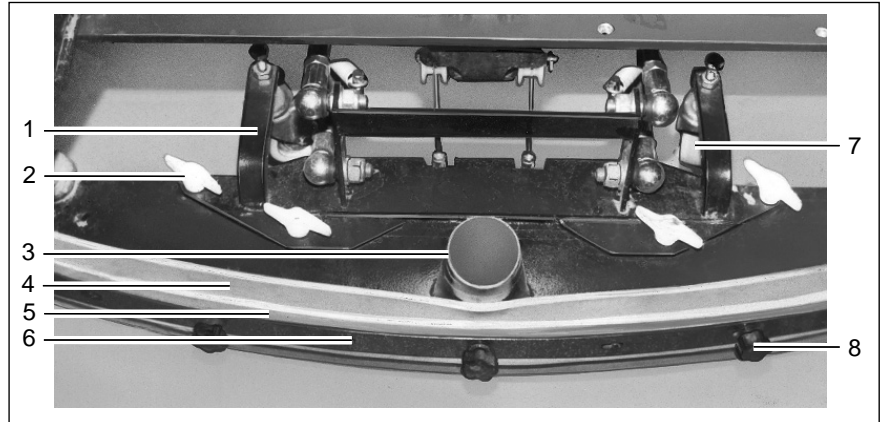

Fig. 36
5. Pull the suction hose from the connection nozzle (Fig. 36/3) of the squeegee.
6. Loosen the wing nuts (Fig. 36/2) on the holding attachment.
The sealing strips (Fig. 36/4) can be changed without the need for any tools:
2. Unscrew the knurled nuts (Fig. 36/8).
3. Remove the sealing strip, support strip and clamping rail (Fig. 36/4-6).
5. Tighten the knurled nuts (Fig. 36/8) evenly, starting from the center and working on alternate sides.
The squeegee stands with the sealing strips (Fig. 36/4) and support rollers (Fig. 36/7) on the ground. To increase the squeegee contact surface of the sealing strips (Fig. 36/4) on the floor, e.g. following wear of the sealing strips (Fig. 36/4), the support rollers (Fig. 36/7) must be set higher:
3. Adjust the support rollers (Fig. 36/7) on the right and left evenly:
5. Tighten the conternuts on each support roller (Fig. 36/7).